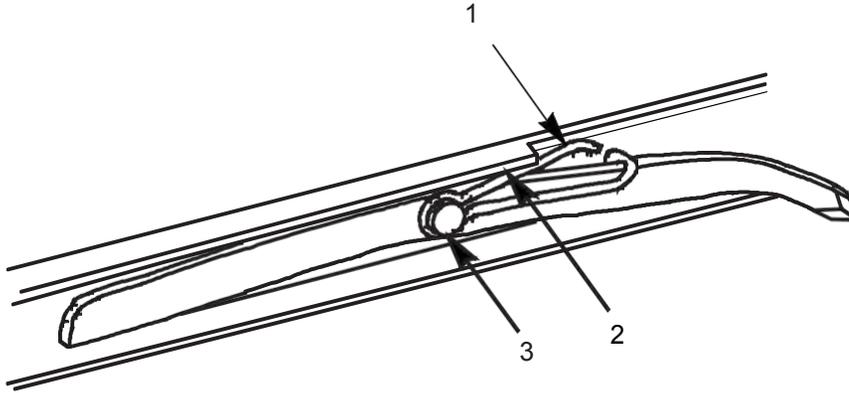

Figure 35. Ejector Pin, Retaining Clip.
10. Install ejector pin (Figure 35, Item 3) into hole in left side of receiver and compress short leg of retaining clip (Figure 35, Item 1) and install in receiver recess of receiver (Figure 35, Item 2).